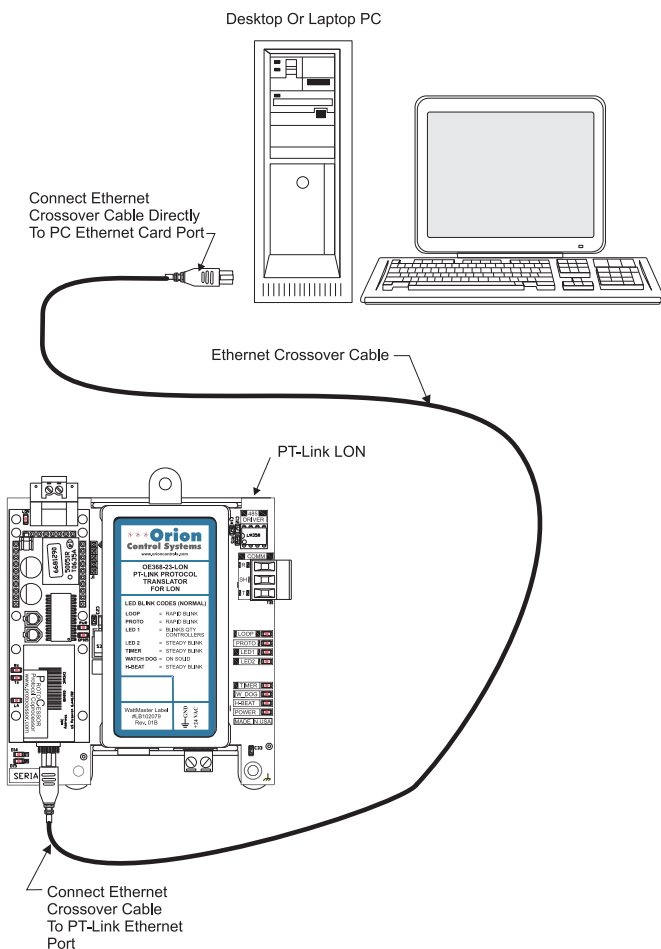

Figure 3: Connecting With Crossover Cable
4. Connect your PT-Link II to your computer using an Ethernet connection (**Figures 3 & 4**).
- 1.) You may connect the PT-Link directly to your PC by using a crossover cable (by others) as shown. See **Figure 3** for details.